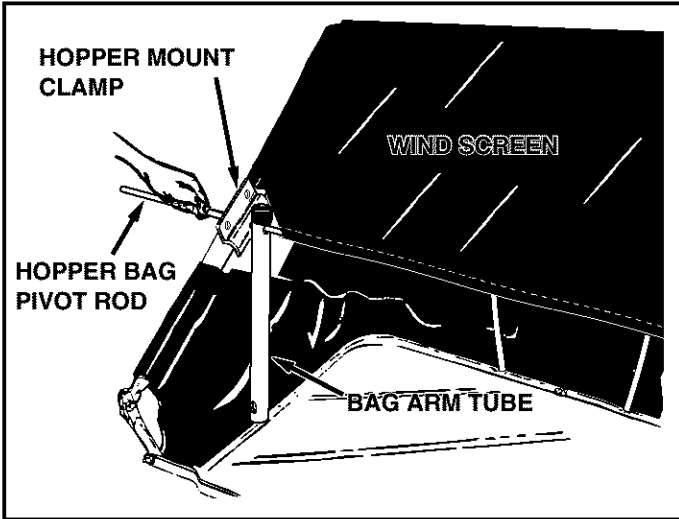

FIGURE 17
- Slide the hopper bag pivot rod through the upper hopper tubes and the stitched sleeve on the front of the wind screen, assembling a hopper mount clamp and a bag arm tube onto the rod on each side as shown in figure 17.